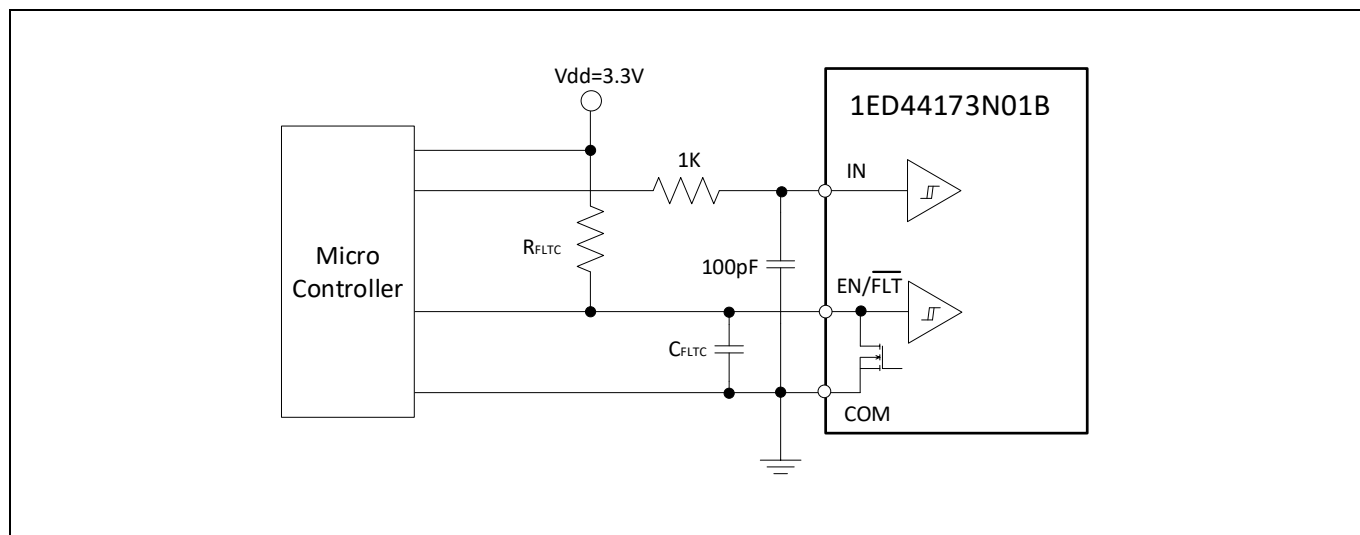
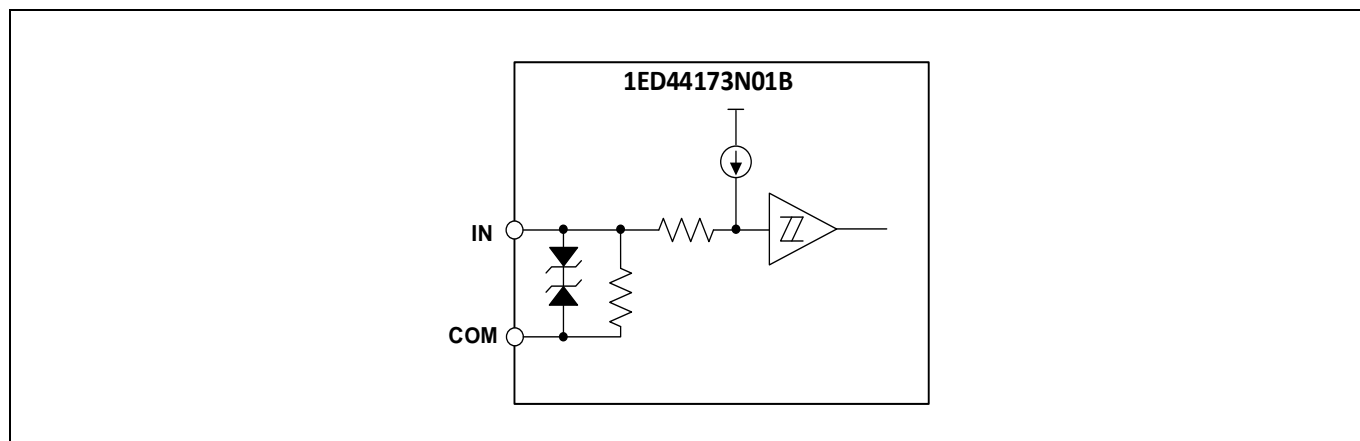

Figure 3 Recommended microcontroller I/O interface circuit
Figure 4 Simplified input structure diagram of 1ED44173N01B
- To prevent signal oscillations, an RC coupling is recommended as illustrated in Figure 3.
Figure 3 shows the I/O interface circuit between a microcontroller (μC) or digital signal processing (DSP) unit and the 1ED44173N01B. The 1ED44173N01B input logic is active-high. The EN/ $\overline{\text{FLT}}$ output is an open-drain configuration. This signal should be pulled up to high by an external logic power supply with a pull-up resistor. RC (1 k Ω / 100 pF) is recommended for the input pin to prevent input noise.
As shown in Figure 4, the 1ED44173N01B input signal section integrates a pull-down resistor. Therefore, when using an external filtering resistor between the microcontroller output and 1ED44173N01B input, pay attention to the signal voltage drop at the 1ED44173N01B input terminal. It should fulfill the logic "1" input voltage requirement. For instance, $R = 1$ k Ω and $C = 100$ pF are recommended for the parts shown in Figure 3.